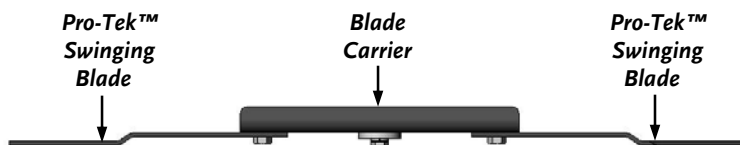

Figure 24
2. Reinstall the sharpened or a new Pro-Tek™ Swinging Blade in the orientation shown (**Figure 24**).